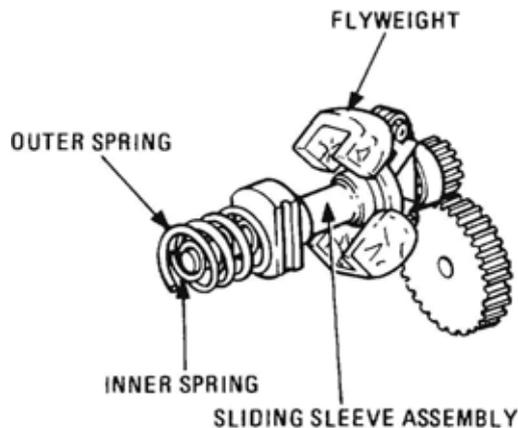

Figure 25 Fuel Injector Pump Governor
42. The governor shaft assembly contains the governor flyweights, sliding sleeve assembly, and the inner and outer governor springs (Figure 25). As the flyweights revolve, centrifugal force tends to move them outward. This movement is opposed by the governor springs acting through the sliding sleeve assembly. As engine rev/min increases, centrifugal force finally causes the flyweights to move the sliding sleeve rearward. When the rev/min decreases, the spring force overcomes the centrifugal force of the flyweights and moves the sliding sleeve forward toward the injection pump.